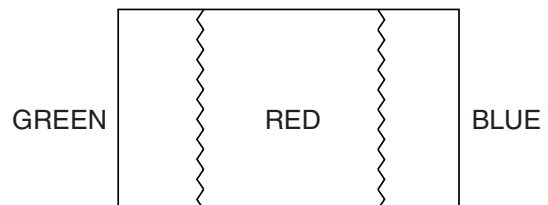

Fig. 5
5. Loosen the Ring Lock and adjust the Purity Magnets so that a red field is obtained at the center of the screen. Tighten Ring Lock. (See Fig. 5,6)